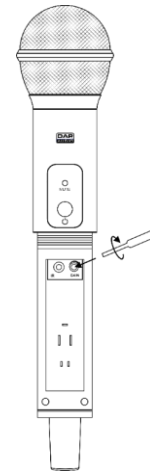

Fig. 09
- 02) Use the included **plastic screwdriver (43)** to set the microphone's input sensitivity (Fig. 09).